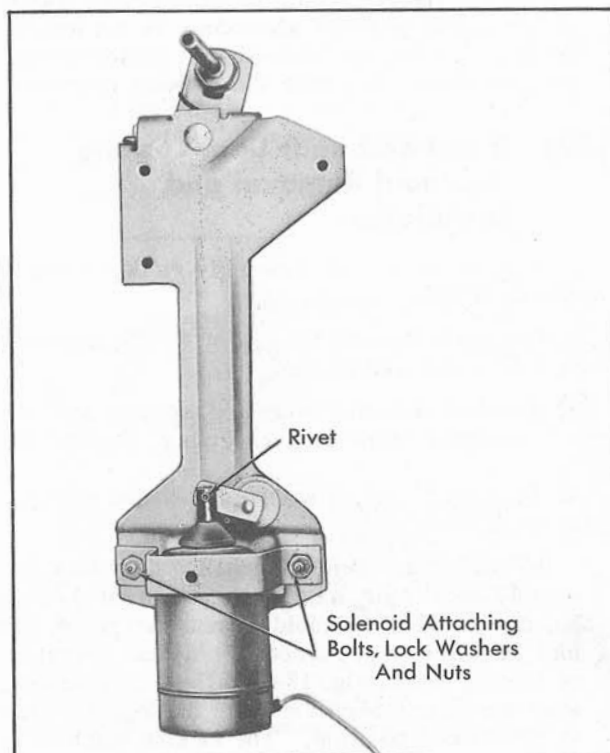

Fig. 17-28 Rear Door Lock Remote Control Assembly
2. Carefully remove rivet securing remote control linkage to solenoid plunger, Fig. 17-28.
3. Remove solenoid attaching nuts and bolts, Fig. 17-28, and remove solenoid from remote control assembly.